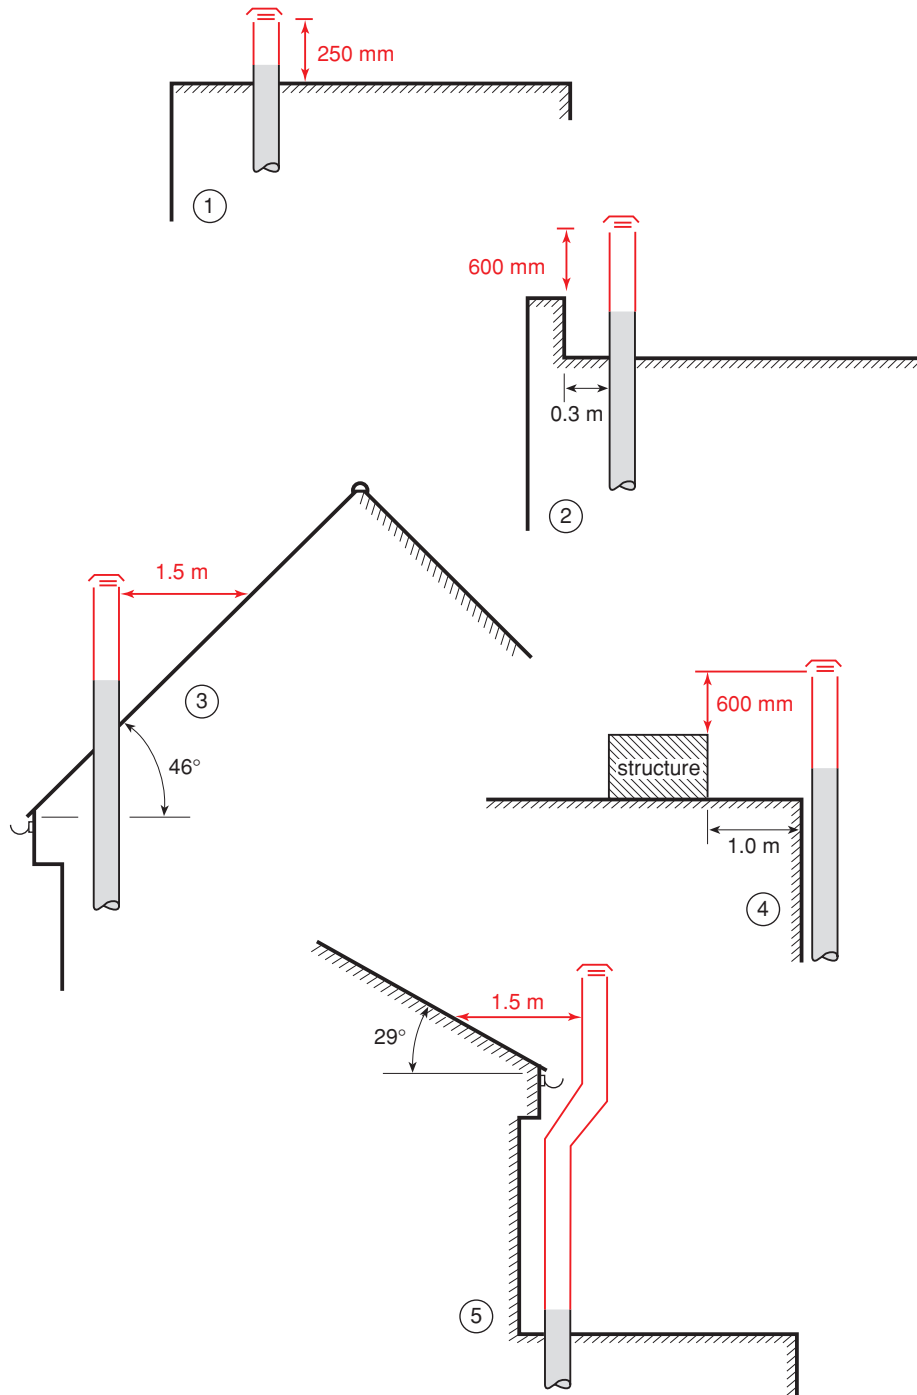

Figure 17
- (44) Complete Figure 17 to show the flue pipe, terminal and minimum distances to be observed when terminating the natural draught open flue from a natural gas appliance. (Page 213.)
- (45) What is meant by the term 'room sealed appliance' and why should these appliances generally be fitted in preference to open-flued appliances? (Page 220.)